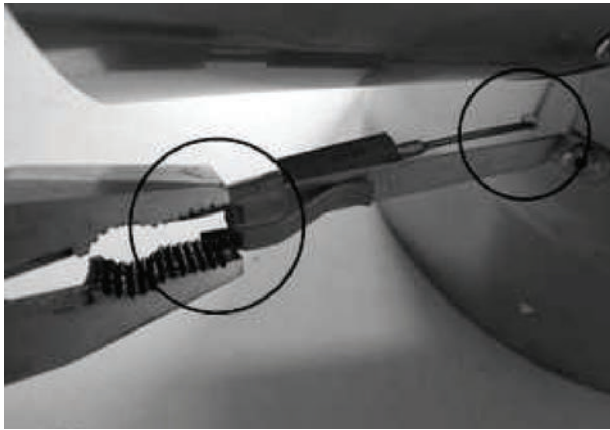

Figure 1
1. Insert the temperature sensor into the holder, the tip of the sensor should protrude through the hole in the tee branch by c. 3mm. Tighten the screw on the holder once in position to prevent the sensor from slipping back out. (fig. 1).